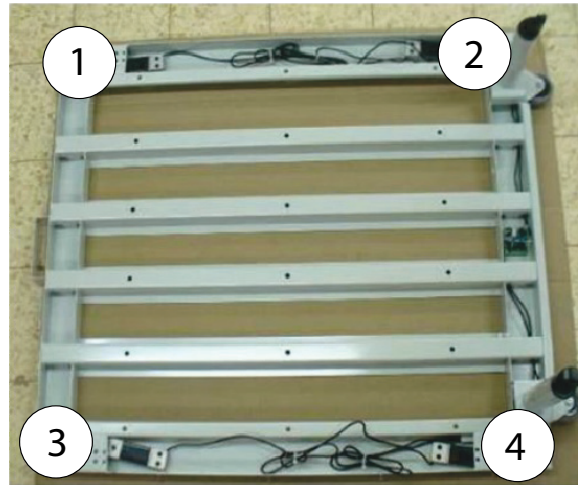

Figure 7. Weight Placement Locations on Scale Frame
7. Place calibration weight on corner 1 (see Figure 7). Record the A/D value.
11. To align the scale from side-to-side, place a weight between corners 1 and 2 (see Figure 7). Record the A/D value.